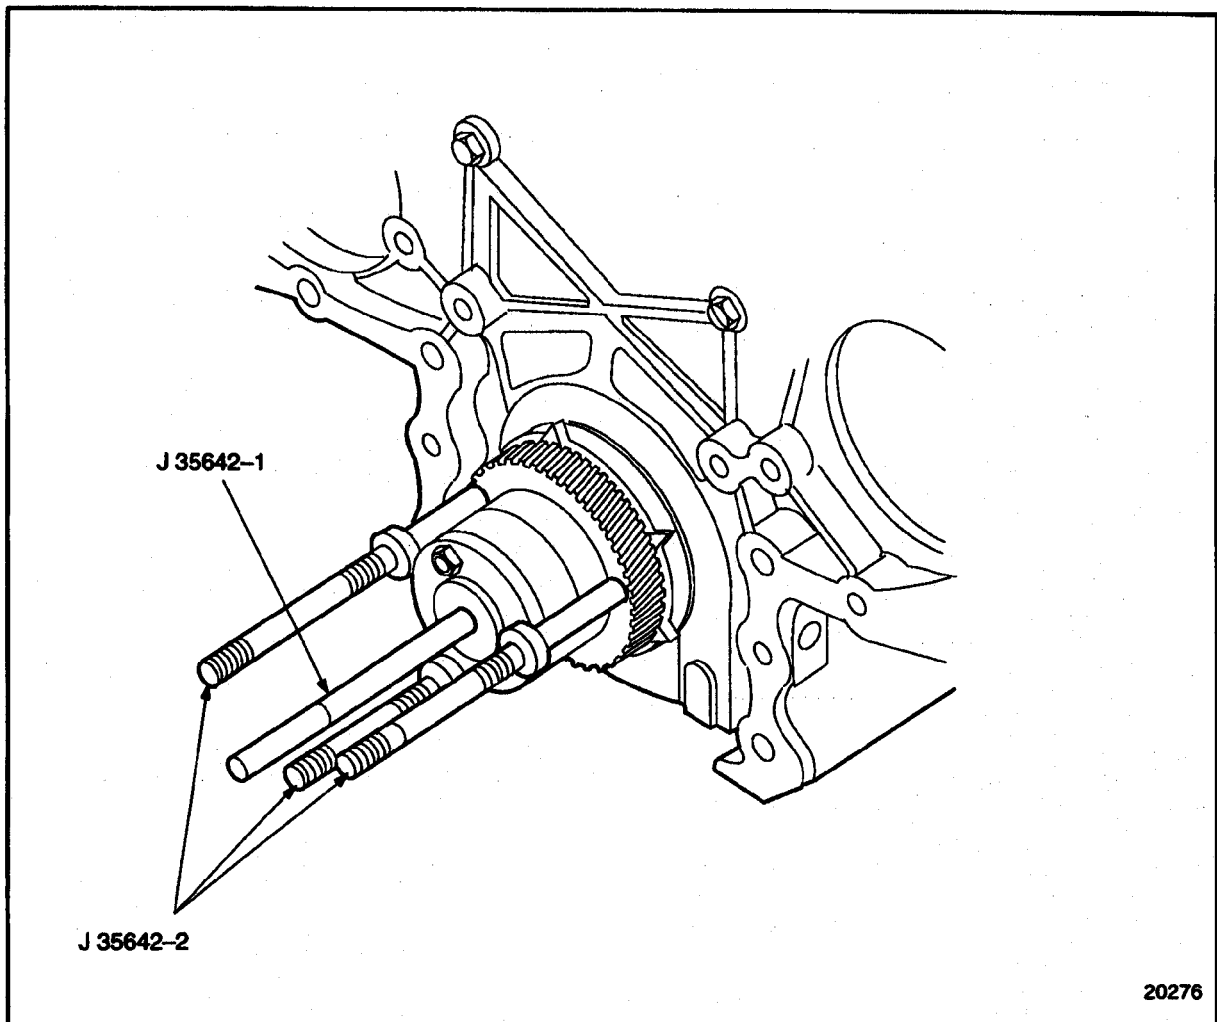

Figure 1-386 Installation of Crankshaft Timing Gear Removal Tools
10. Using two of the crankshaft pulley bolts, secure J 35642-1 part of J 35642 to the end of the crankshaft. Torque the bolts to 190-203 N·m (140-150 lb·ft). See Figure 1-386.